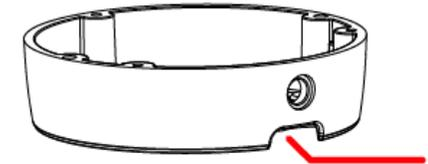

Figure 5
F. Connect the required cabling (24VAC, RJ45, etc.) to the camera, optionally attach the molded cap if not using the side entry cabling (Fig. 5).